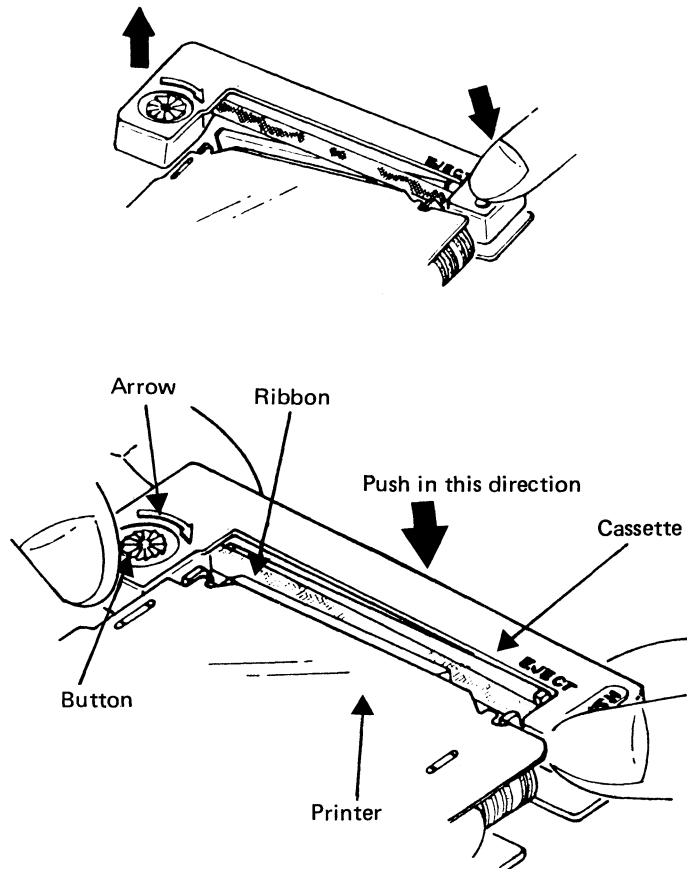

Fig. 2.2 Cassette removal and replacement
2.5.2 Replacing the Ribbon Cassette (Fig. 2.2)